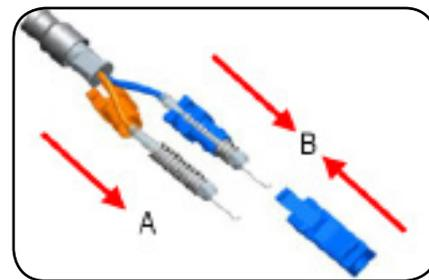

Figure 2
A. Slide inner clips on the same colored fiber and over the springs (**Figure 2**).